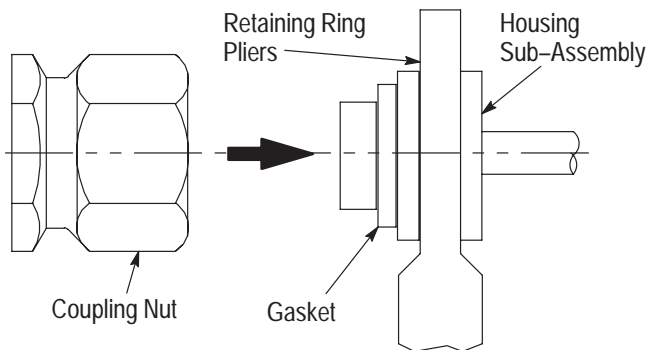

Figure 9
1. Place the retaining ring and gasket on housing as shown in Figure 9.